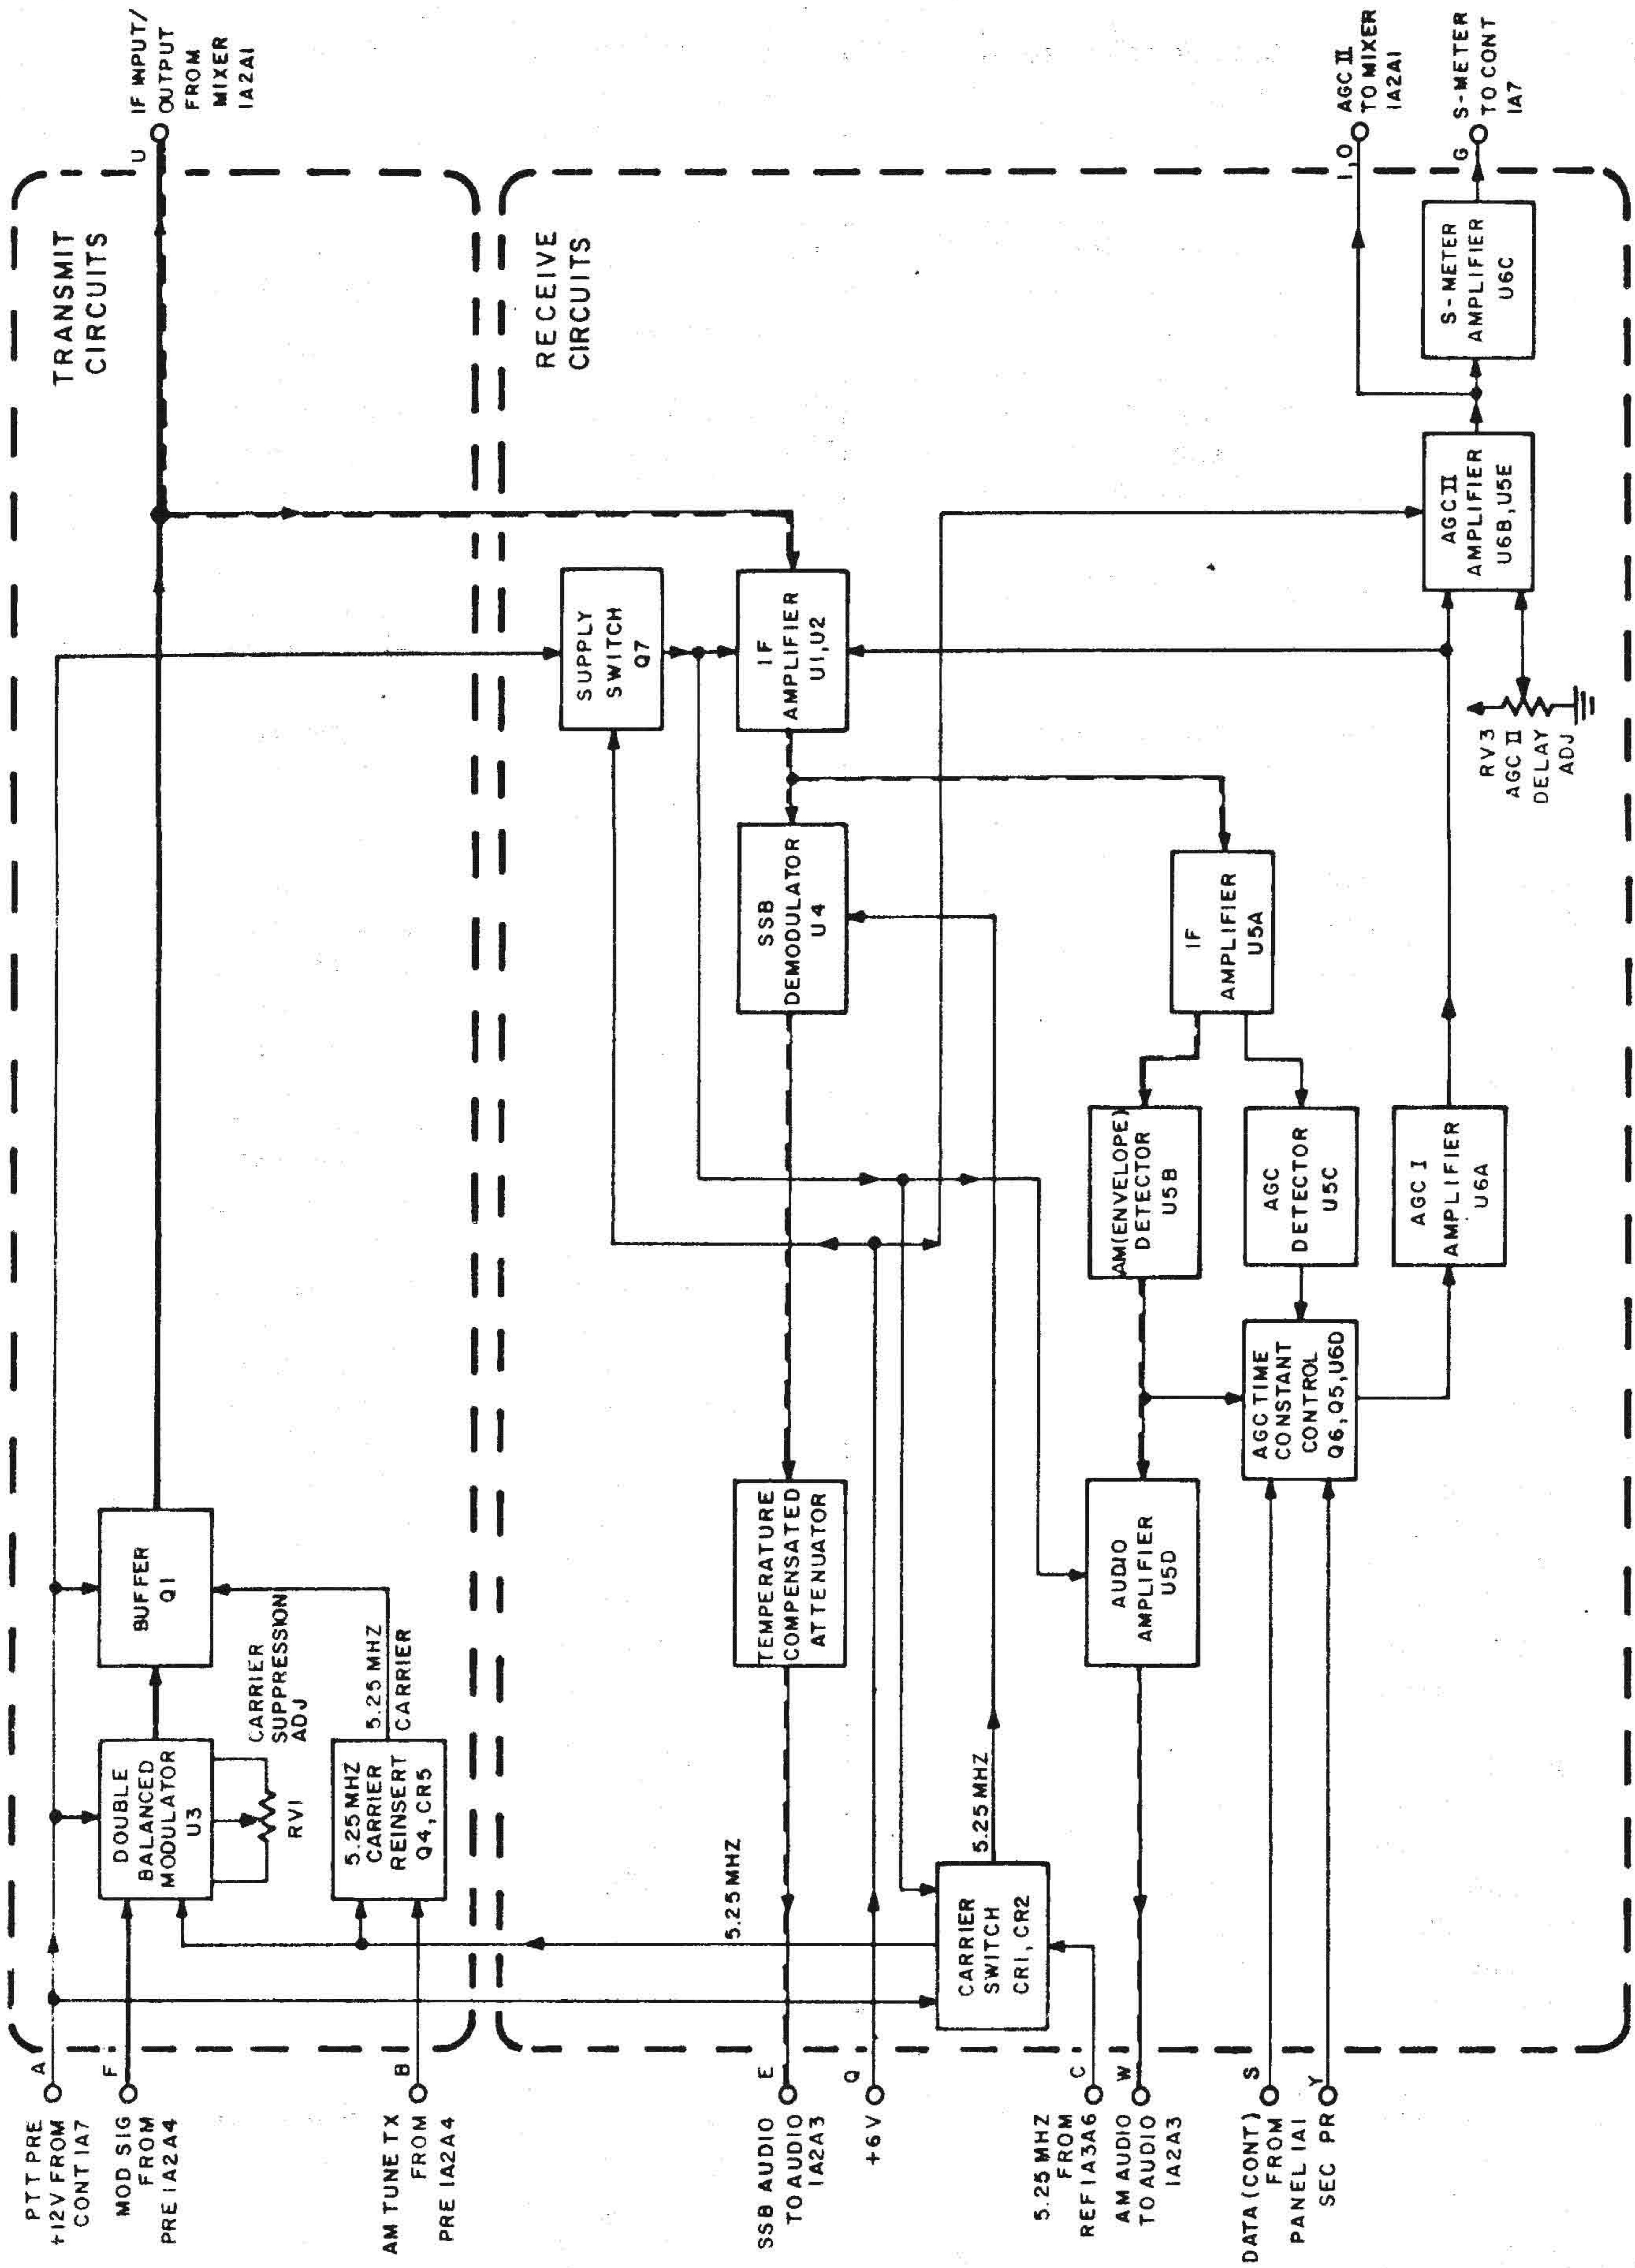

Fig. 2-15. Module IF 1A2A2, block diagram
2-8. Module IF 1A2A2 (fig. 2-15 through 2-19)
a. Block Diagram Analysis (fig. 2-15).
(1) Transmit path. The transmit path is activated when the PTT PRE+12V line arriving from module CONT 1A7, rises to +12V. Concomitantly, the